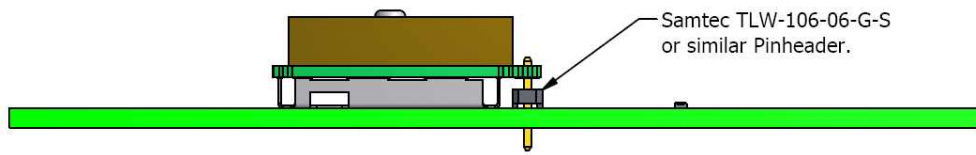

Figure 5: Side view of the pin header assembly for the UP501 module
- Solder the pin header to the module in such way that the pins are as short as possible on the antenna side of the UP501 module (see Figure 5).